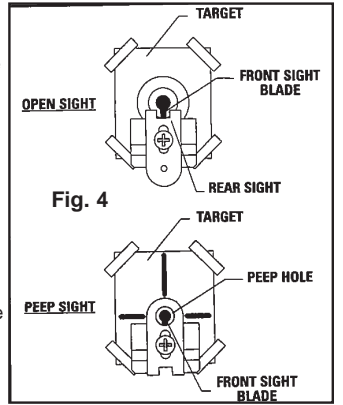

Fig. 4
- When using the notched rear sight, the airgun is correctly aimed when the front sight blade is positioned exactly in the center of the notch of the rear sight. The top of the front sight blade should be even with the top of the notch in the rear sight. The bulls-eye should appear to rest on the top of the front sight. (Fig. 4)
- When using the peep rear sight, the airgun is correctly aimed when the bulls-eye is resting on the top of the front sight blade and the bulls-eye is in the center of the peep hole. (Fig. 4)
- Open the bolt. (See Section 4.1 - Fig. 4)